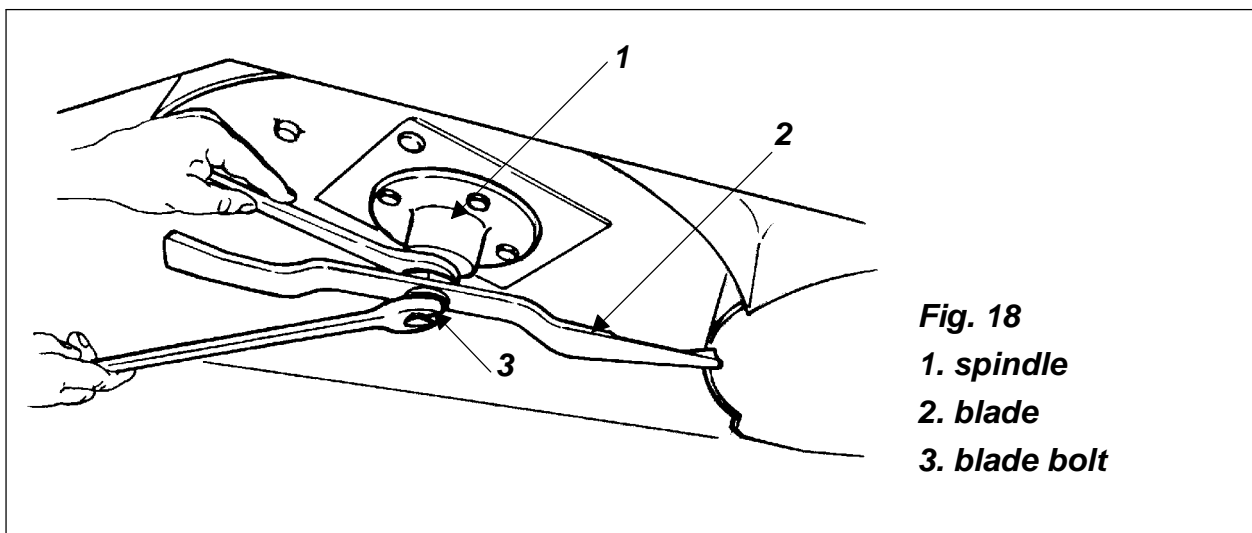

Fig. 18
3. With a wrench, block the spindle and tighten the bolt to 140 N.m (103 lb.ft) (**see fig. 18**).